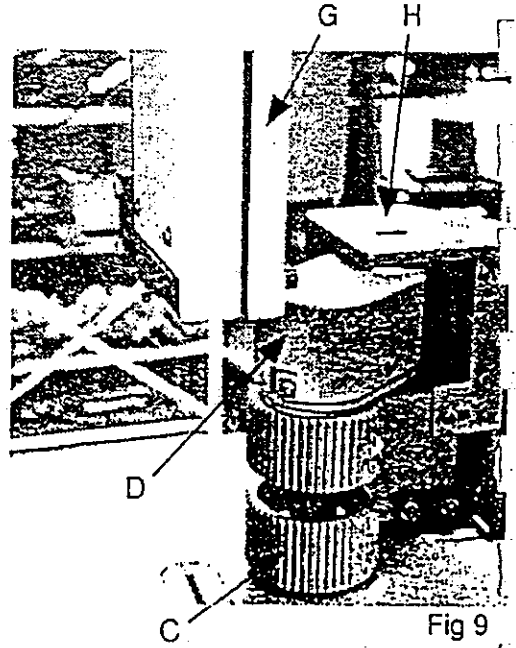

Fig 9
2. Feed rollers "C" (fig 9) are mounted on a swinging arm "D" (fig 9) to cater for up to 100mm (4") variance in stock width, this affords for example:-
CHECK SWINGING ARM WILL NOT FOUL BLADE OR TOP SAW GUARD "G" (FIG 9) AFTER RE-POSITIONING FEED UNIT BEFORE OPERATING MACHINE.
5. A grease point "H" (fig 9) is provided, this point should be greased on a weekly basis depending on usage of machine.